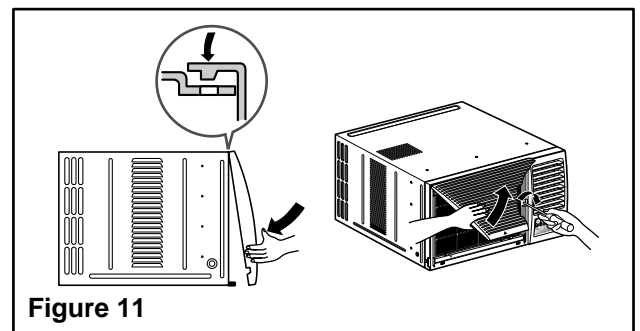

Figure 11
10. Attach the front grille to the cabinet by inserting the tabs on the grille into the tabs on the front of the cabinet. Push the grille in until it snaps into place. (See Fig.11)
11. Lift the inlet grille and secure it with a screw (Type A) through the front grille. (See Fig. 11)